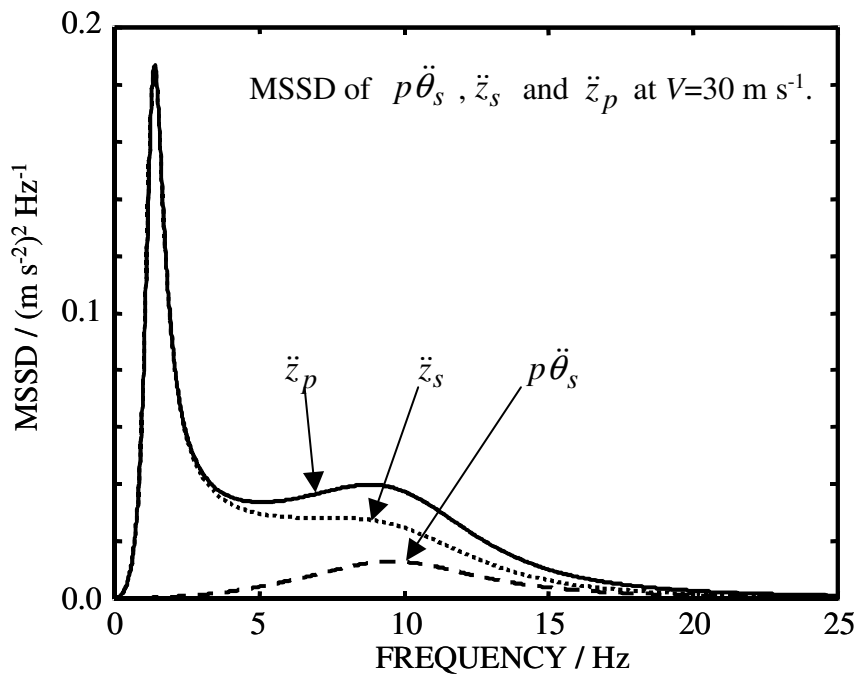
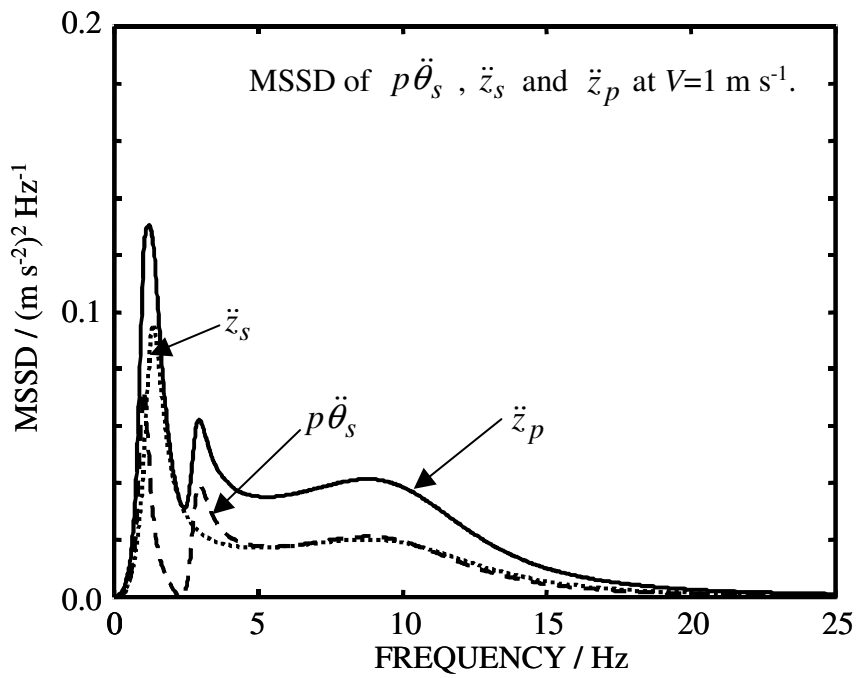

Fig. 2
Fig. 3
Figure 2 shows the mean square spectral densities of the sprung mass acceleration responses for a vehicle speed of  $30 \text{ m s}^{-1}$  and  $c_{lat} = 3 \text{ kN s m}^{-1}$ . Figure 3 shows the responses for a vehicle speed of  $1 \text{ m s}^{-1}$  and  $c_{lat} = 90 \text{ kN s m}^{-1}$ . The vertical velocity input from the road surface is white noise and is the same for both speeds.
- (c) Explain how the addition of the anti-roll bar changes the frequency and magnitude of resonances appearing in the spectral densities shown in Fig. 2 and Fig. 3. Use your results from part (b) to aid your explanation. [20%]